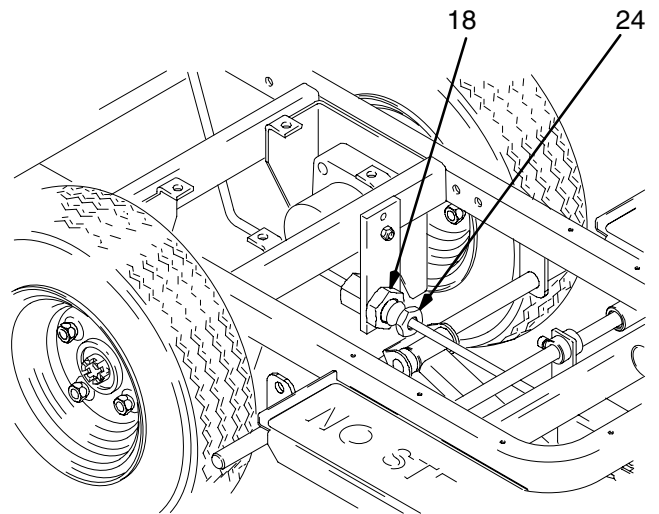

Fig. 1
4. Fig. 1. Loosen jam nut (18).
5. Turn centering fitting (24) toward rear of Line Driver to stop forward creep. Turn centering fitting toward front to stop reverse creep.
6. Tighten jam nut (18).